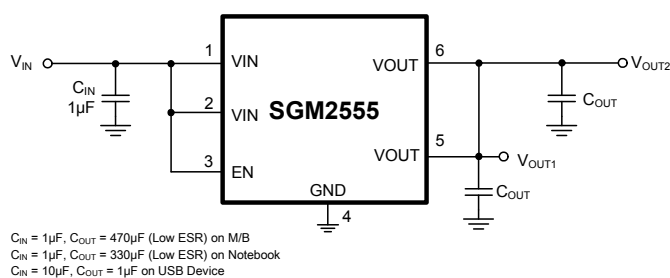

Figure 1. High-side Power Switch
- If the package is with dual VOUT or VIN pins, short both the same function pins as in Figure 1 or Figure 2 to reduce the internal turn-on resistance. If the output power will be delivered to two individual ports, it is specially necessary to short both VOUT pins at the switch output side in order to protect the switch when each port is plugged-in separately.